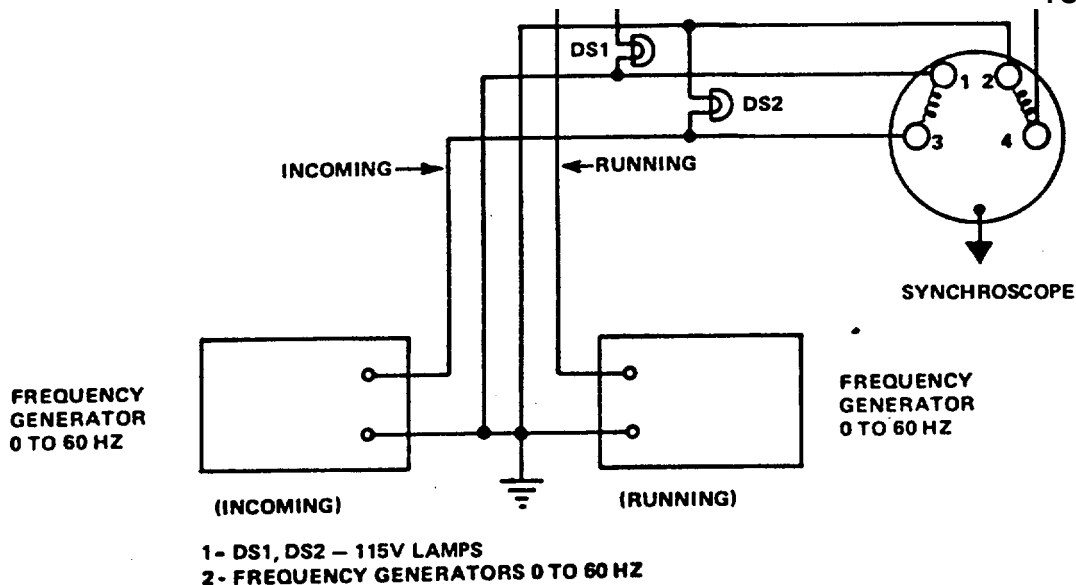

Figure 15-2. Synchroscope, Test Setup
(1) Connect the synchroscope as shown in figure 15-2 test setup. Frequency generators used should be capable of providing minimum 50 volts, maximum 240 volts. Frequency 0 to 60 Hz. For testing, the pull-in frequency is 47 Hz.
(2) The synchroscope axial